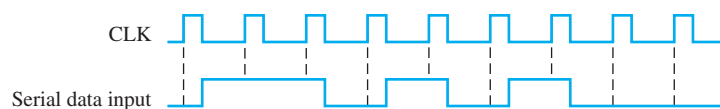

FIGURE 8–48
7. What is the state of the register in Figure 8–49 after each clock pulse if it starts in the 101001111000 state?